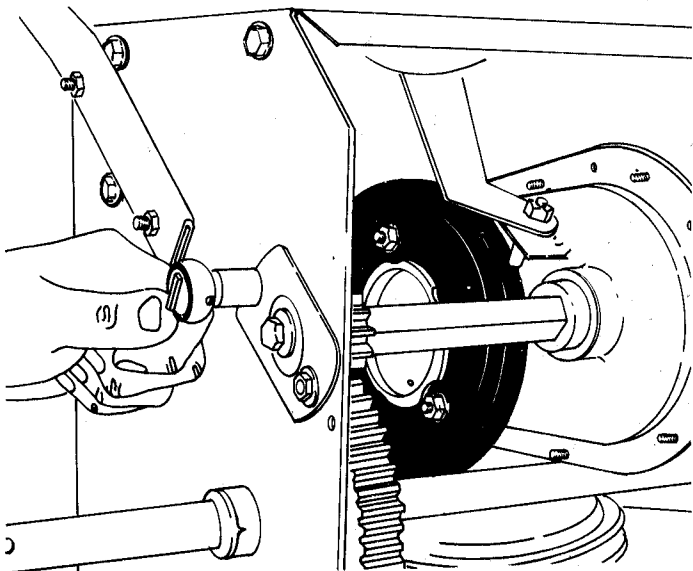

FIGURE 3.24 — REMOVING BEARING FLANGE NUTS
STEP 2: Pull the wheel assembly from the left side then remove the two flange nuts and carriage bolts from the bearing retainer and remove the retainer. (Figure 3.24).